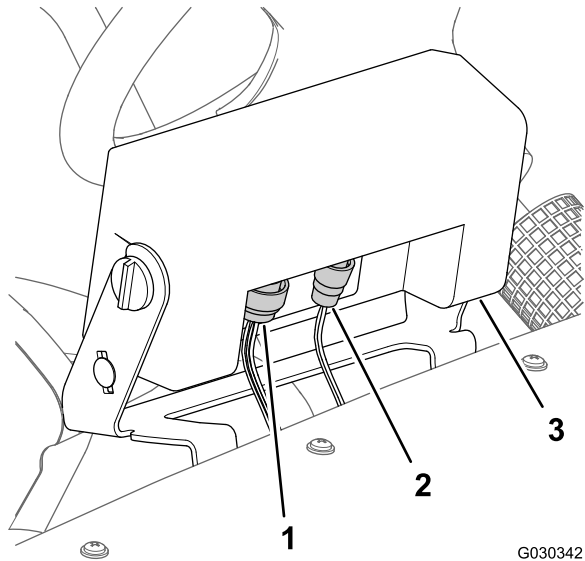

Figure 5
- 1. At the front of the pro control console, disconnect the 3-pin connector of the wire harness of the machine from the 3-socket connector of the control console (Figure 5).
- 2. Disconnect the 16-socket connector from the 16-socket connector of the control console (Figure 5).